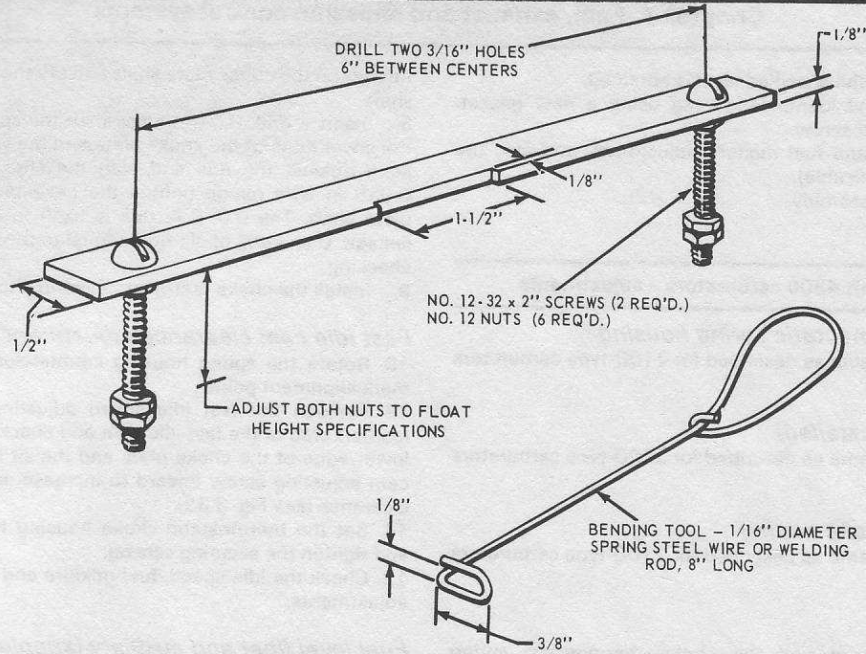
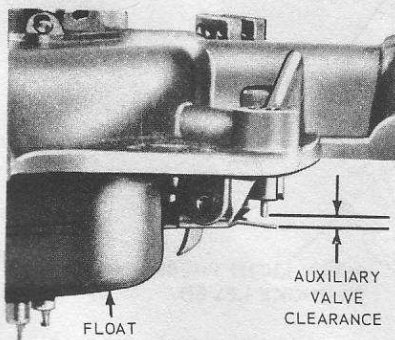

Fig. 3.34 Float gauge and bending tool (Sec. 16)
Fig. 3.36 Checking the auxiliary valve clearance (4300 carburetor) (Sec. 16)
- 14 Fabricate a float gauge and bending tool, to the dimensions as shown in Fig. 3.34, for checking the parallel setting of the dual pontoons.
18 Check the auxiliary valve clearance (see Fig. 3.36). If necessary, adjust by bending the auxiliary valve and float tab, as required, with the bending tool (Fig. 3.34).